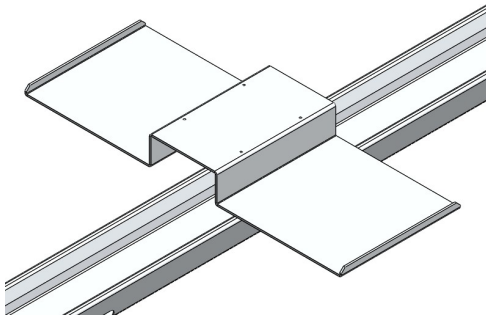

Fig. 21 – Install Tray ‘top-down’ on Rail
- 2 Install Ballast Trays under PV panels, top-down, onto rails (see example illustration, Figure 21). Refer to the *Shading Diagram*, provided separately, for configuration requirements. Install 4 TEK screws through tray and rail.